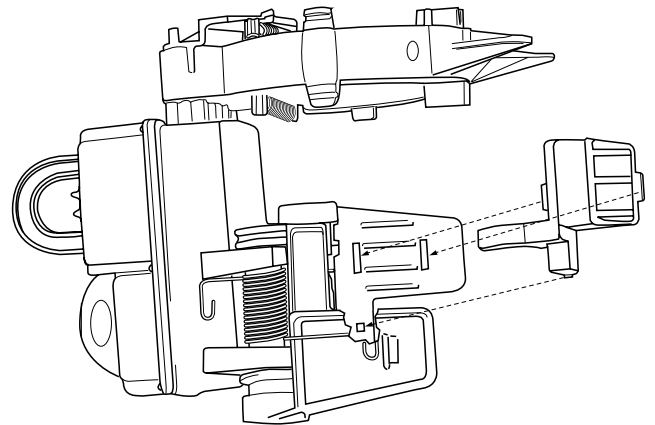

Figure 6. Remove clamp pads attached to each clamping arm on a mechanism where cable diameter exceeds 1"
2. **For applications where the cable diameter is less than 1", leave the clamp pads attached to the clamp arms.** On installations where the cable diameter exceeds 1", remove the pads that are attached to each clamping arm. Removing the pads will allow the clamping mechanism to properly attach to larger diameter cables. (See Figure 6.)